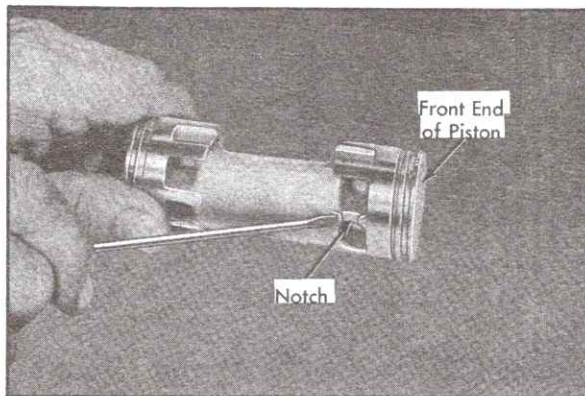

Fig. 1-52 Compressor Piston
9. Place piston in #1 compartment of Parts Tray with notch in casting web at front end of piston in dimpled groove of compartment, Fig. 1-52.